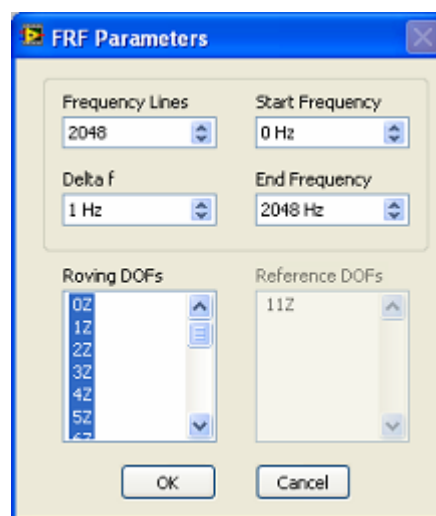

Figure 4-14 FRF parameters window
- Specify FRF parameters as Figure 4-14 shows.